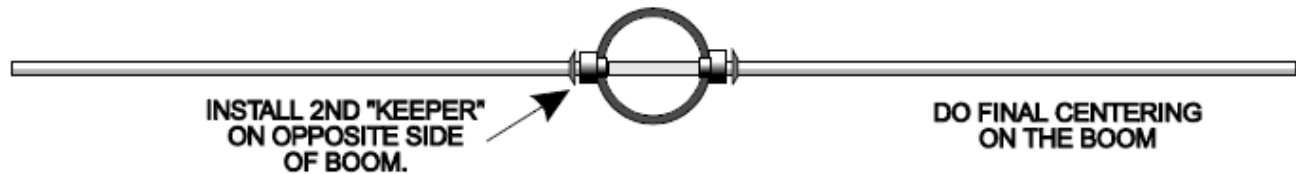

FIGURE 3.
3) You are now ready to install the elements on the boom. You must start at one end and work your way, in order, to the far end of the boom. Lay out the elements in ascending or descending order as appropriate. Install a black insulator in each side of the boom piece at the starting end, and slide the correct element through the two insulators. Obtain a second keeper and install that keeper on the opposite end of element #1 from the pre-installed keeper. (See Figure 3) Check that the element is centered before you snug up both keepers. A positioning error of +/- 2mm or 0.080" is acceptable.